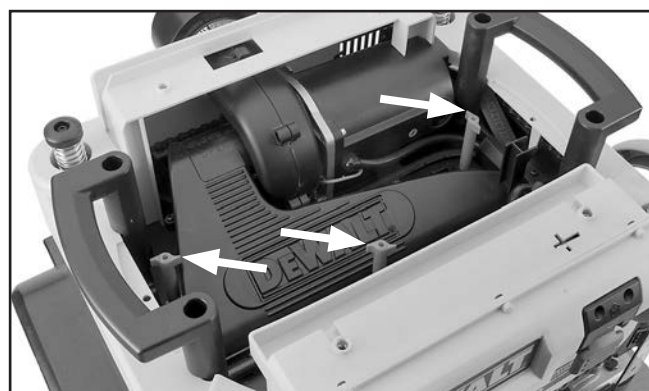

Figure 3. Location of red wing nuts.
3. Remove red wing nuts holding dust shroud and set aside (see **Figure 3**).